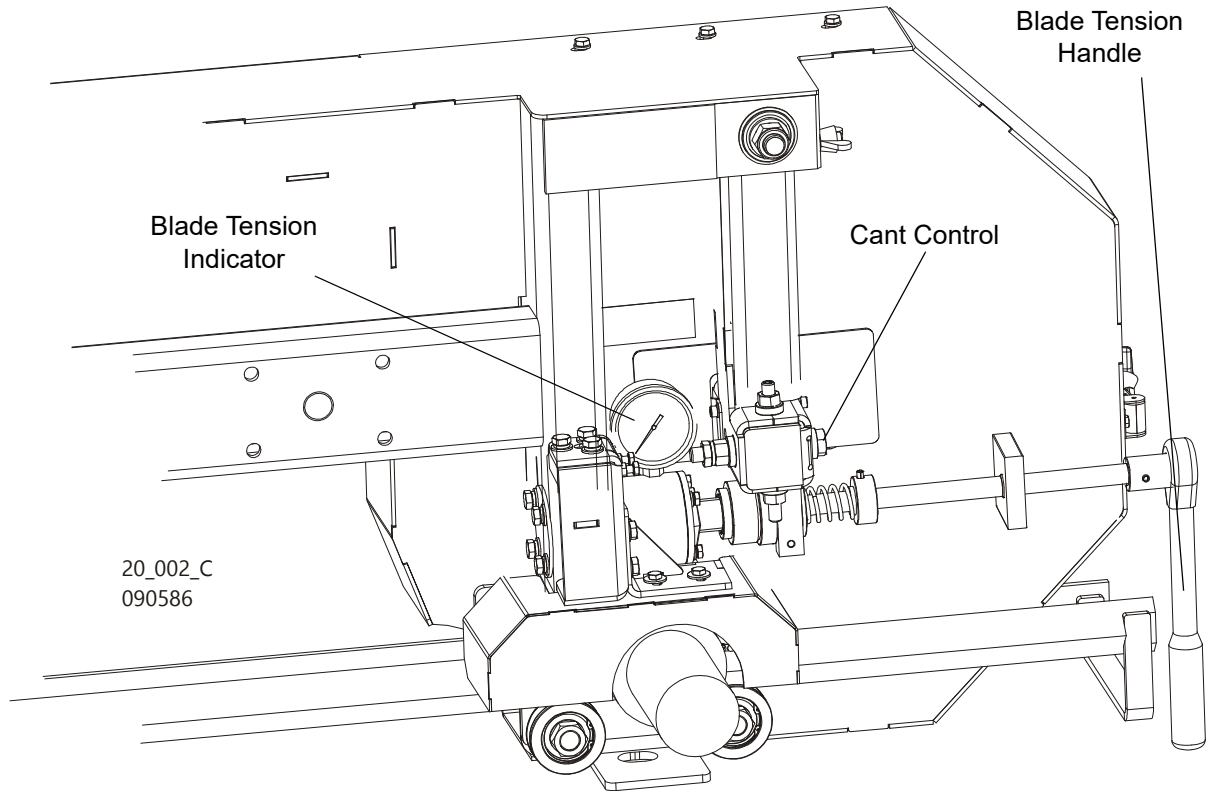

FIG. 2-5
5. Use the cant adjustment bolt, shown in **Figure 2-5** to adjust where the blade travels on the blade wheels.